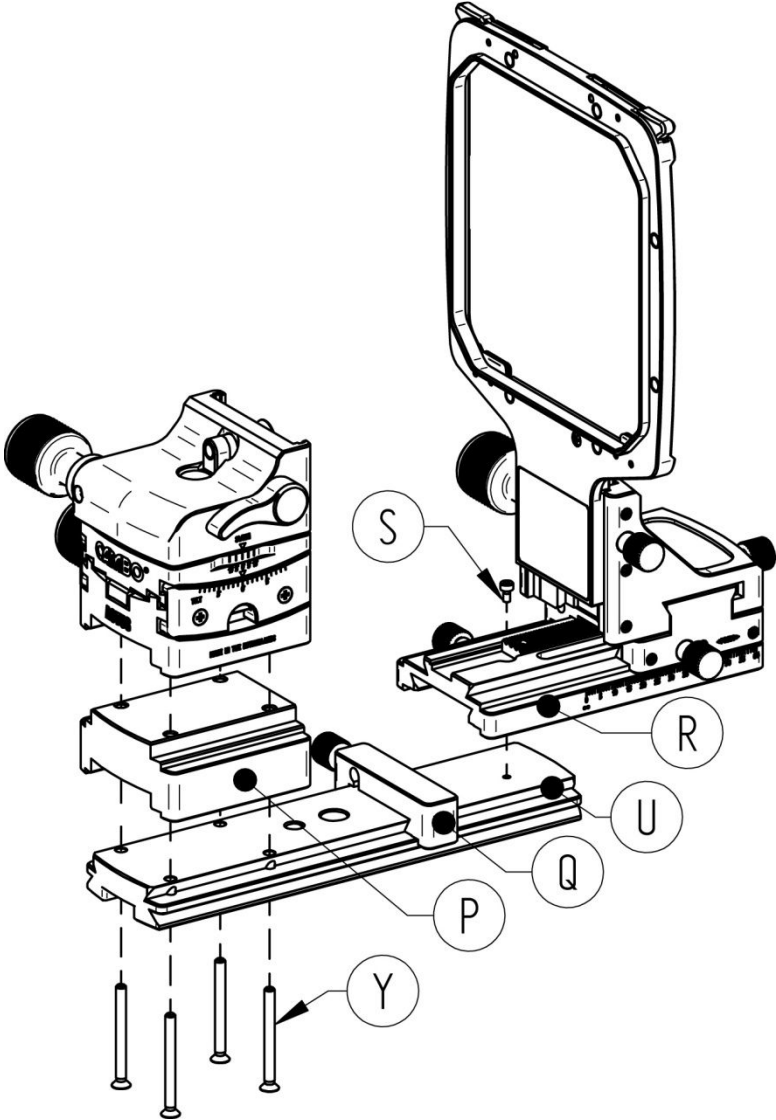

Figure 7: Conversion Actus DB
It is possible to change the standard Actus3 (for DSLR and mirrorless system cameras) to a Actus DB version. Screw S (M2x4 DIN 912, figure 7) prevents the telescopic rail (R) from sliding of the main rail (U). This screw can be removed when it is aligned correctly with the hole in the telescopic rail. Please use an Allen key 1,5mm to remove the screw. With the screw removed the rear standard of the Actus can slide of the main rail. Place the new rear standard, align the hole and screw hole of R and U, and screw in the screw S.